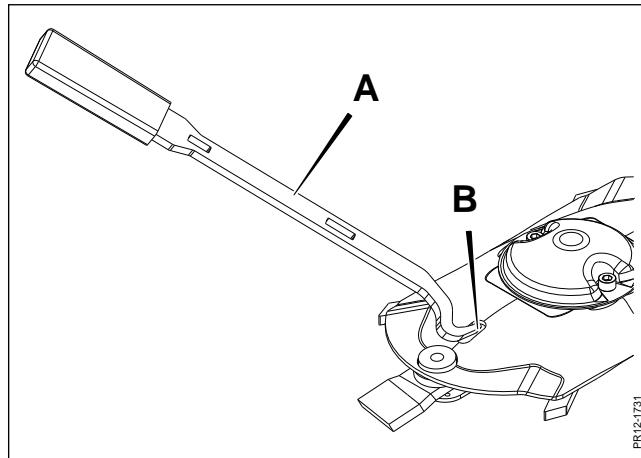

Fig 5-9
**Fig. 5-9** The replacement tool **A** placed in the oblong hole **B** in the disc. When the tool is in the hole it is straightened up and pushed forward in the oblong hole.